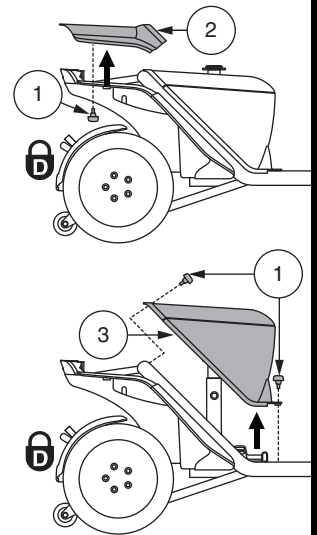

Figure 11. Battery Shroud Removal/Installation
1. Remove the seat and battery shroud. See figure 11.
- a. Remove the rear shroud by removing the two (2) thumbscrews that secure it to the PMV frame, and then lifting the shroud straight up and off of the PMV. See figure 11.
- b. Remove the battery shroud by removing the four (4) thumbscrews that secure it to the PMV frame, and then lifting the shroud straight up and off of the PMV. See figure 11.